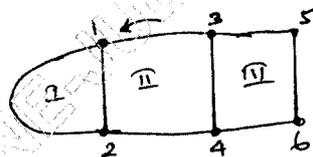

Fig Q8(b)
b. Calculate the shear stress distribution in the walls of the three cell using section as shown in Fig Q8(b) when it is subjected to counterclockwise torque of 11.3 kN.m. The data are in the table 8(b) (08 Marks)